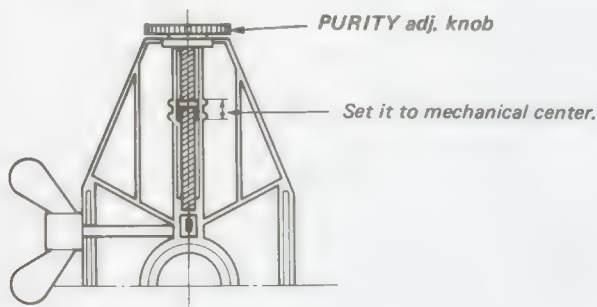

Fig. 5-1.
5. Set the PURITY adjusting knob to its mechanical center. (See Fig. 5-1.)